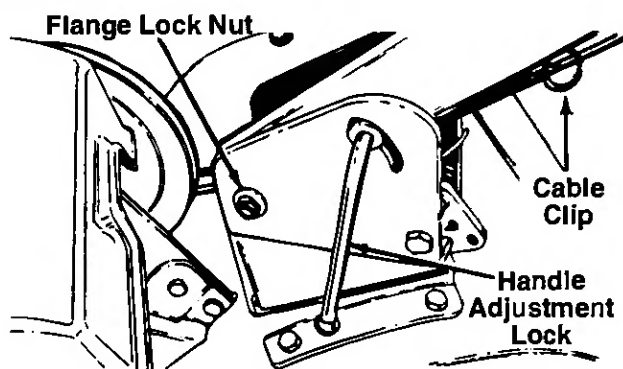
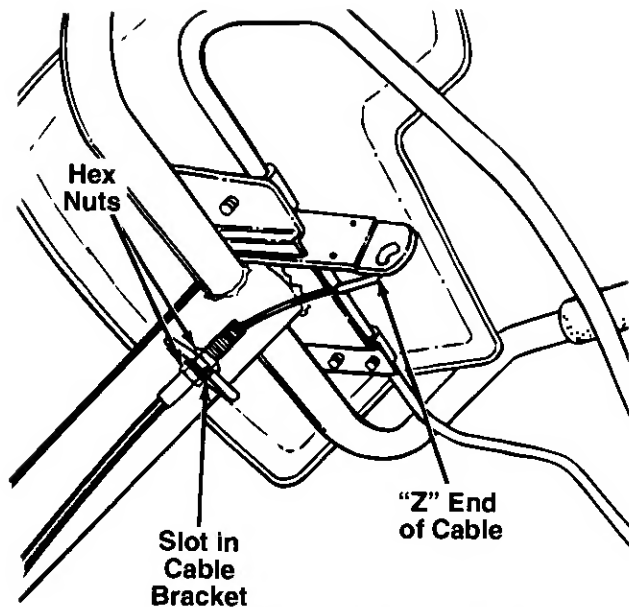

FIGURE 3.
FIGURE 6.—Viewed beneath handle panel.
6. Secure bottom of handle by placing flange lock nut on hex bolt. Do not tighten at this time. See figure 3.
1. Route the clutch cable through the cable clip underneath the handle. Be careful not to bend or kink the cable. Refer to figure 3. Remove one hex nut from the threaded casing on the end of the cable. See figure 6.
3. Pull the cable upwards to obtain slack, and hook the "Z" end of the cable into the bracket on the clutch control (beneath the handle panel) as shown in figure 6 (from right to left). Tighten the nut against the cable bracket.
If the belt turns with the unit in neutral, adjust by moving the hex nut below the cable bracket **down** a few turns. See figure 6. Tighten the upper hex nut against the bracket.
The clutch handle is located beneath the handle. See figure 6. Squeezing the clutch handle against the handle engages the wheel and tine drive mechanisms.